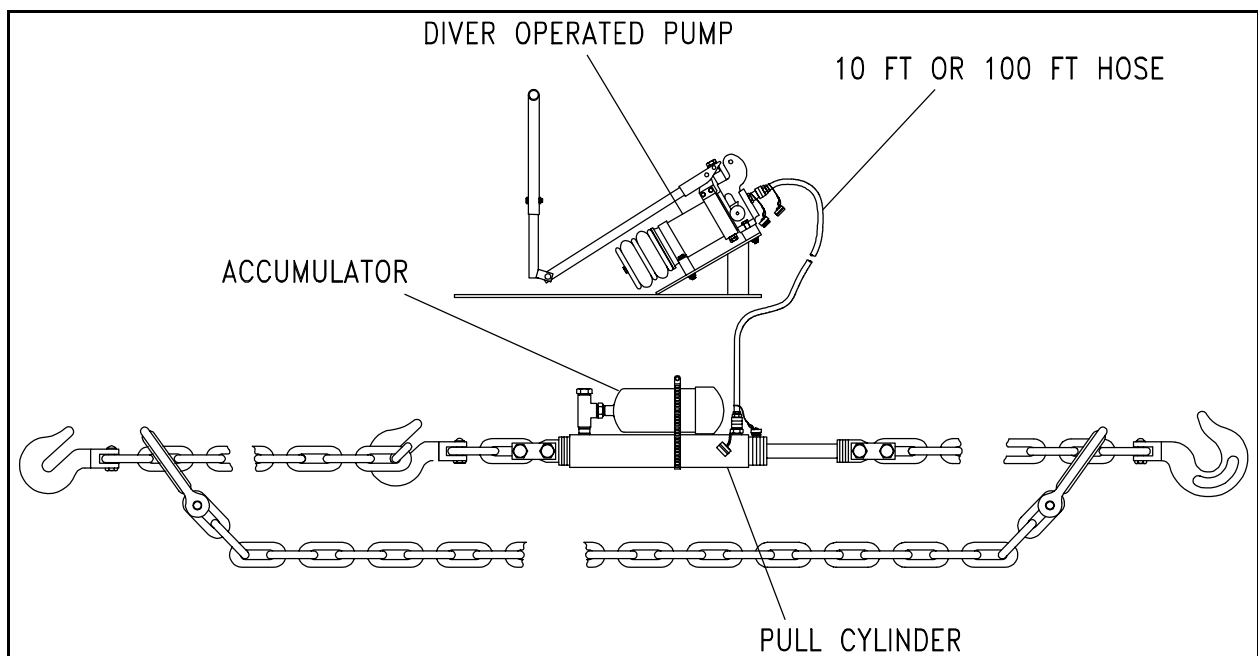

Figure D-1. Pull Cylinder Setup
The pull cylinder assembly, Figure D-1, uses a modified ENERPAC Model RD-1610 double-acting hydraulic cylinder connected to a Greer accumulator. The accumulator automatically extends the cylinder rod after each retracting stroke of the rod. Compressed gas inside the accumulator extends the rod when the diver operated pump release valve is opened. The pull cylinder can move a load approximately 6-inches for each cylinder stroke. The pull cylinder is supplied hydraulic power from the diver operated pump (Figure D-1). Repetitive pulling action is accomplished by moving the clevis grab hook up the 8-foot length of chain after each cylinder retraction. The accumulator has a charging adapter to charge the accumulator with nitrogen. Other components included in a pull cylinder assembly are: two connecting blocks (1/2-inch steel plate with high-strength steel bolts); four clevis grab hooks; a clevis sling hook; and 5/8-inch Spectrum 7 chains (two 8-foot lengths and one 6-foot length).
- b. Attach blocks, hooks, and chains to the pull cylinder as illustrated in Figure D-1. Pull all slack from chain before connecting chain to the cylinder. Otherwise, most of the cylinder stroke will be used to tighten chain instead of pulling the load.